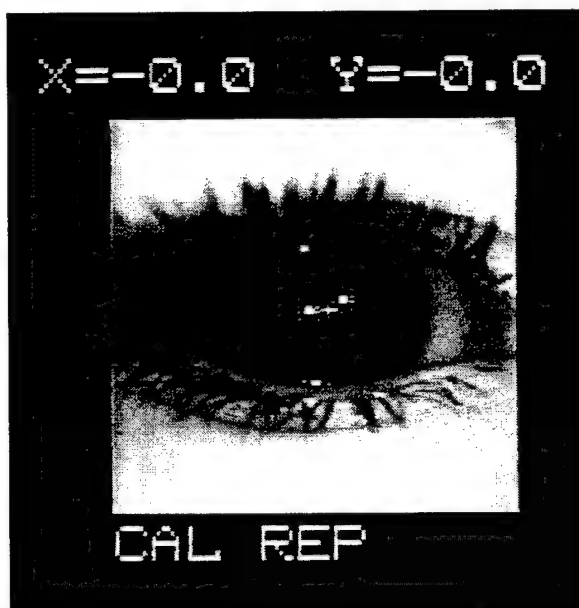

Figure 10. Calibration Repeat (CAL REP) Message
8. If the message "**CAL REP**" as shown in Figure 10 appears after Step 6, consider the following items and follow the appropriate procedure: